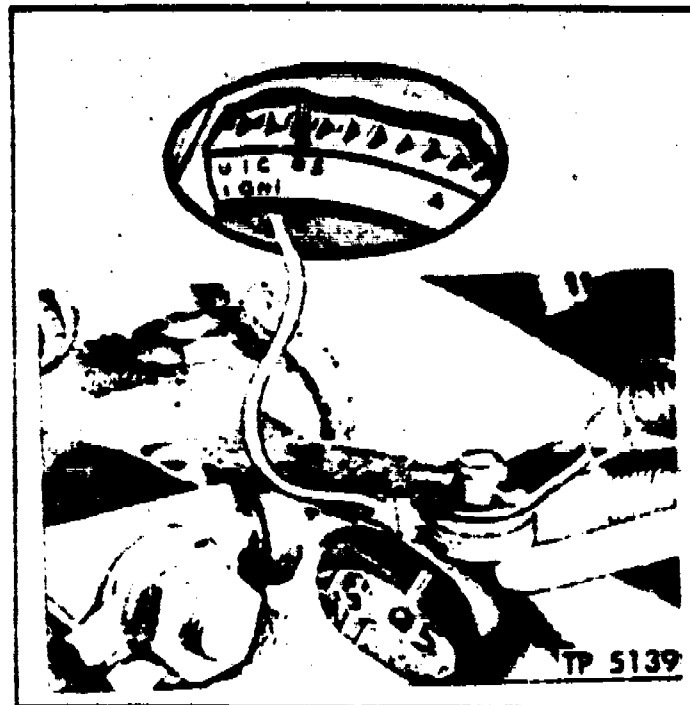

Figure 15. Timing Mark in Line With Pointer.
g. Loosen the distributor mounting screw and turn the body of the distributor until the timing mark is in line with the pointer, figure 15.